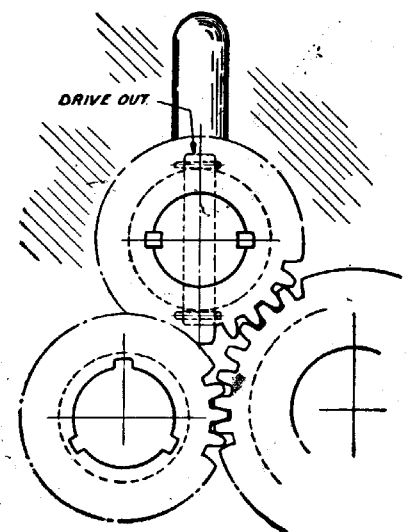

Fig. 7
3. Reach through the opening made by removing the gear shifter bracket and remove the two cotter pins in the straight pin through the gear hub and shaft. (Fig. 7.)